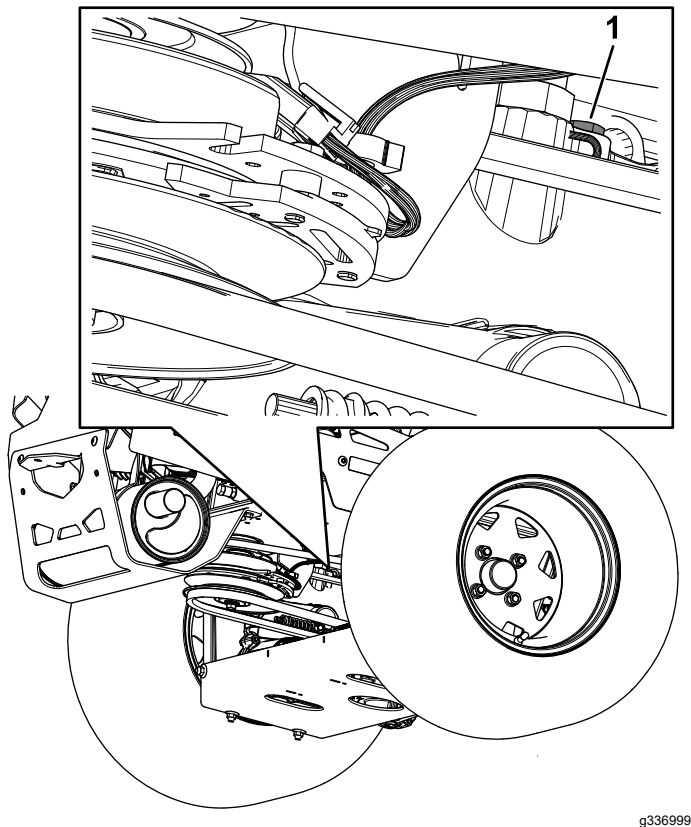

Figure 73
- **For ZT 5400 Hydros**, use a 7/16-inch wrench to access the vent plug from underneath the machine (Figure 73).